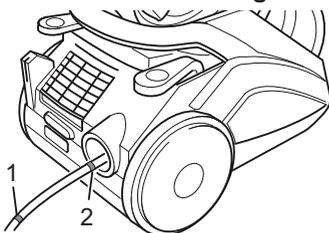
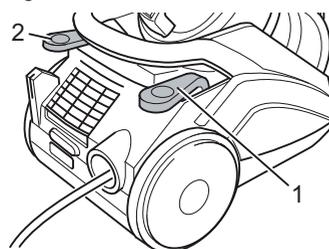

Fig. 14
Fig. 15
2. Pull out the cord by the plug to the yellow mark (Fig. 14/1).
Danger of electric shock! If the red mark (Fig. 14/2) is visible, retract the cord using the cord retraction button (Fig. 15/3) to the yellow mark (Fig. 14/1). Otherwise, the power cord may be damaged.
3. Switch on the appliance with the on/off switch (Fig. 15/2).